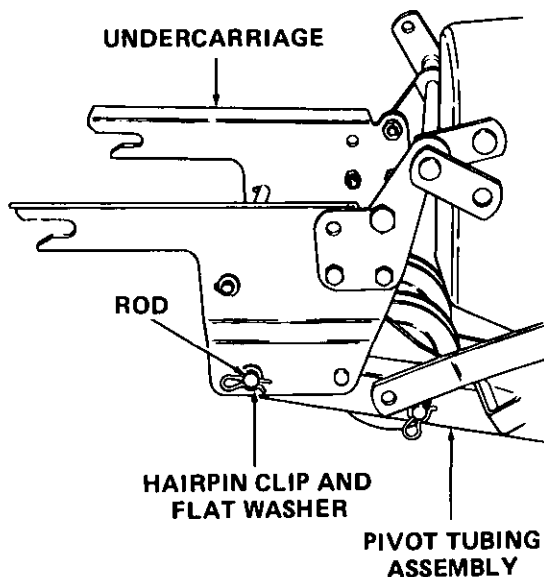

Figure 11
- c. FOR STANDARD GARDEN TRACTORS ONLY, slide undercarriage over ends of square tubing and align holes in square tubing with bottom rear holes in undercarriage. Refer to Figure 11.